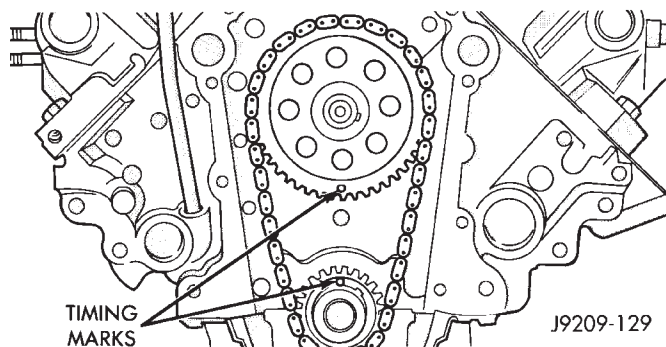

Fig. 13 Alignment of Timing Marks
(3) Hold tool in position with a distributor lockplate bolt. This tool will restrict camshaft from being pushed in too far and prevent knocking out the welch plug in rear of cylinder block. **Tool should remain installed until the camshaft and crankshaft sprockets and timing chain have been installed.**
(4) Install camshaft thrust plate and chain oil tab. **Make sure tang enters lower right hole in thrust plate.** Tighten bolts to 24 N•m (210 in. lbs.) torque. Top edge of tab should be flat against thrust plate in order to catch oil for chain lubrication.
(5) Place both camshaft sprocket and crankshaft sprocket on the bench with timing marks on exact imaginary center line through both camshaft and crankshaft bores.
(6) Place timing chain around both sprockets.
(7) Turn crankshaft and camshaft to line up with keyway location in crankshaft sprocket and in camshaft sprocket.
(8) Lift sprockets and chain (keep sprockets tight against the chain in position as described).
(9) Slide both sprockets evenly over their respective shafts and use a straightedge to check alignment of timing marks (Fig. 13).
(10) Install the camshaft bolt/cup washer. Tighten bolt to 68 N•m (50 ft. lbs.) torque.